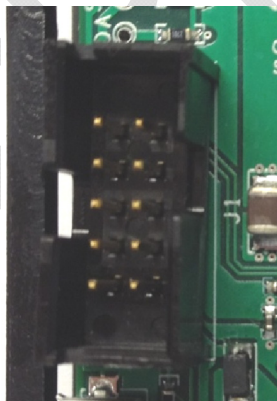

Figure 8. IDTP9023-EVAL JM60 Programmer input 10pin header.
5. Connect the JM60 to the connector on the IDTP9023 CSP DEMO PCB board (J1 Fig 8).